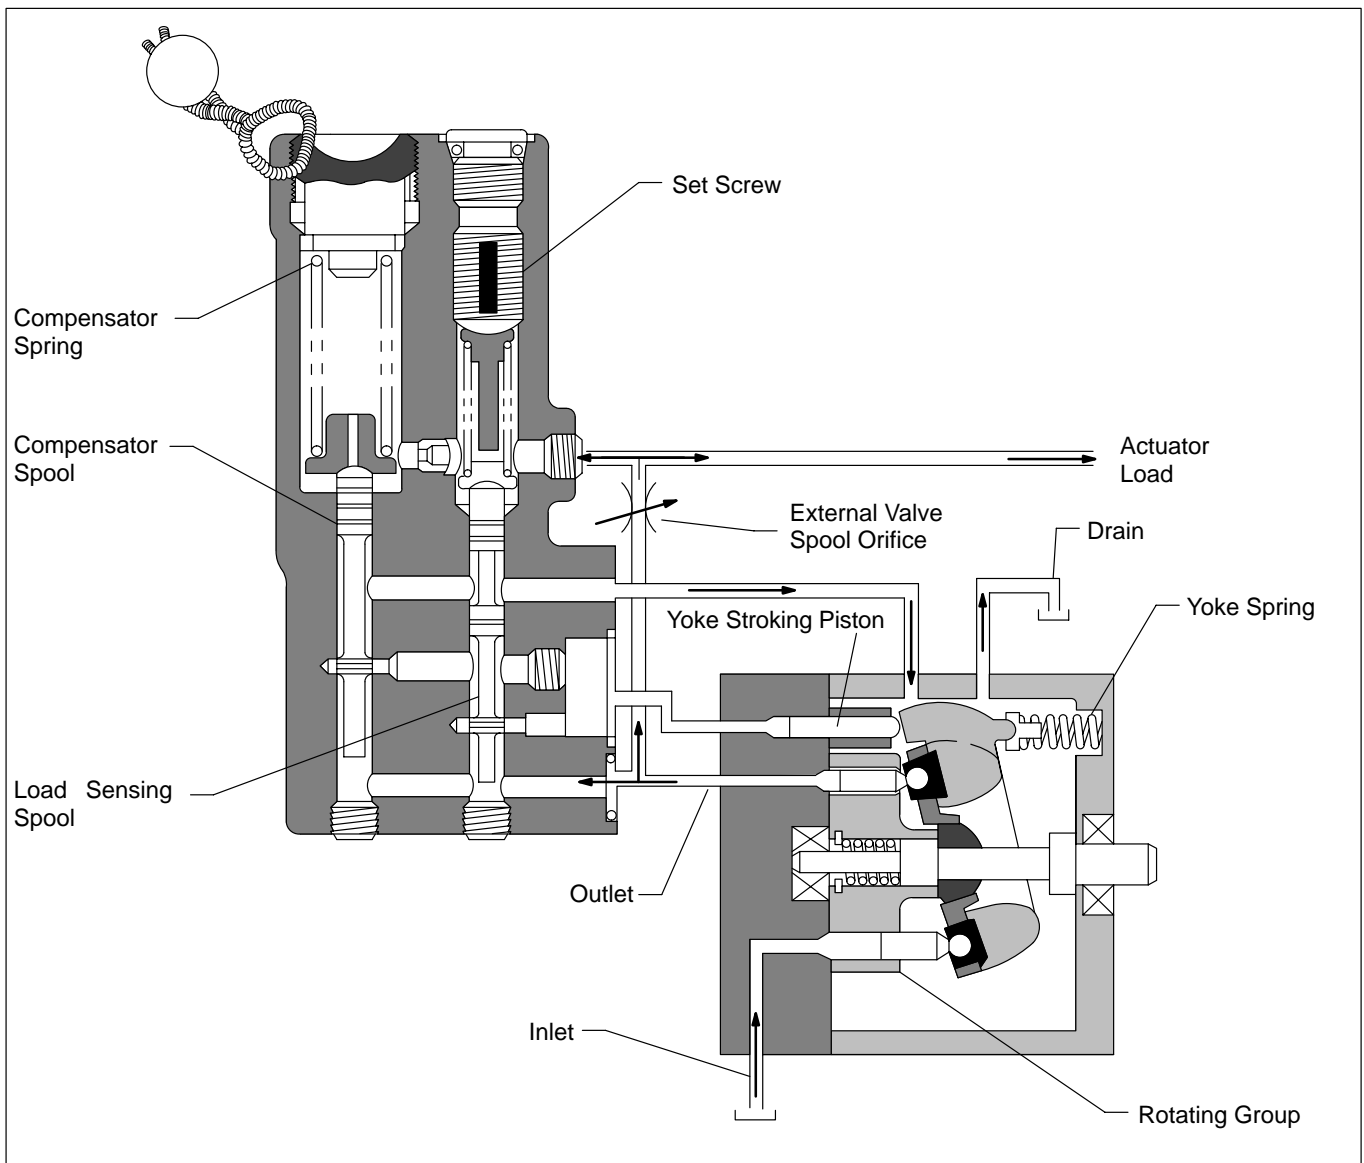

Figure 5. Load Sensing Pressure Limiting Compensator (CVP, CVPC, CVPD)
1. Compensator (C), (Flat Cut-Off Type): A pump using this compensator will maintain a constant load pressure for all values of flow within the capacity of the pump.
2. Compensator (CG), (Remote Control Type): This compensator is similar to the “C” type compensator except the compensator is controlled by a remote hydraulic source such as a relief valve.
3. Compensator (CV), (Load Sensing Type): A load sensing compensator provides flow at a pressure equal to that required by the load plus a constant value used as a pressure drop across a metering valve. The pump will change its flow with changes in size of the metering valve orifice. The pump and compensator together provide a constant flow source for the load, at a pressure established by the requirements of the load, hence the title “Load Sensing”.
4. Compensator (CVP), (Load Sensing Pressure Limiting Type): The CVP control is a combination of the standard flat cut-off compensator (C) and the load sensing compensator (CV). The load sensing compensator controls flow to the load across an external valve orifice. If pressure build-up exceeds the flat cut-off compensator setting, the flat cut-off compensator overrides the load sensing compensator and lowers the flow to prevent excessive pressure build-up at the pump.
5. Compensator (CVPC), (Load Sensing Pressure Limiting Type): This compensator is the same as the “CVP” compensator except the load sensing spring is heavier. The heavier spring provides a slightly higher pressure differential (160 $\Delta$ P vs. 350 $\Delta$ P) across the external valve orifice. See Figure 5.
The load sensing portion functions at pressures below the flat cut-off compensator setting and provides a constant flow characteristic. If pressure exceeds the flat cut-off compensator setting, the yoke will stroke to zero flow at maximum pressure lowering the horsepower requirements for holding circuits and protecting the pump. Refer to Figure 5 throughout the following circuit explanation.
The small fixed orifice located in the compensator body provides a decompression feature for the load circuit during standby operation. The decompression feature allows the pump to stroke to zero flow and minimum pressure ( $\Delta P$ ), if the load is blocked and the external valve spool orifice is closed. (Refer to Figure 5.)